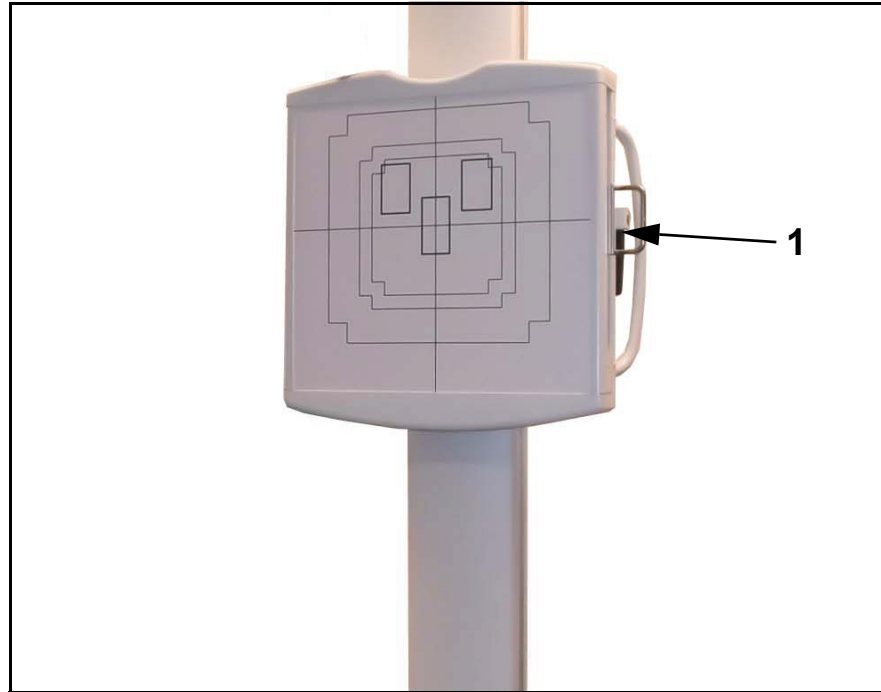

Figure 3-6. Release Brake Handle
- 7 Press the button to release the locks (1 in Figure 3-6).